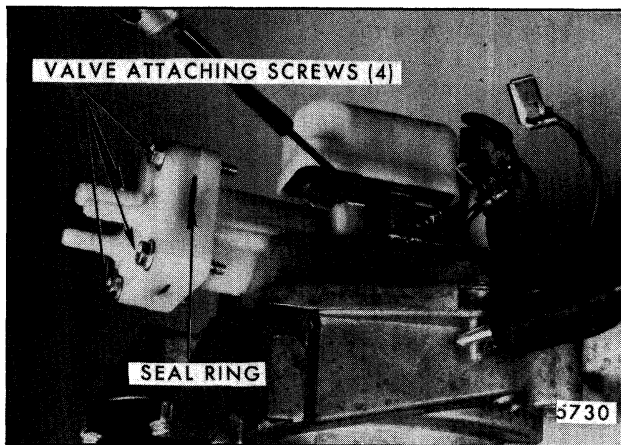

Fig. 2-134-Valve Assembly
- a. Note position of valve assembly pipes relative to the pump housing for reassembly, then remove the four screws that attach valve assembly to housing (Fig. 2-134).